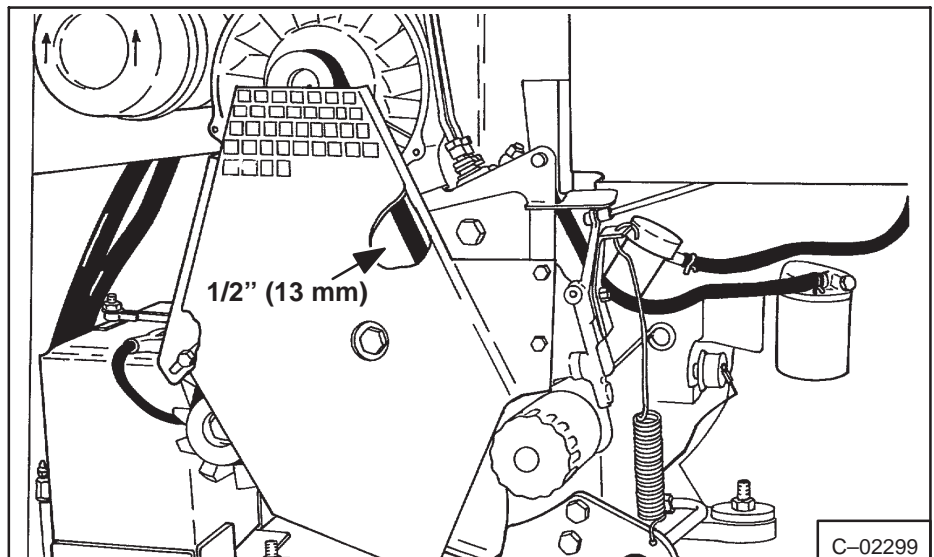
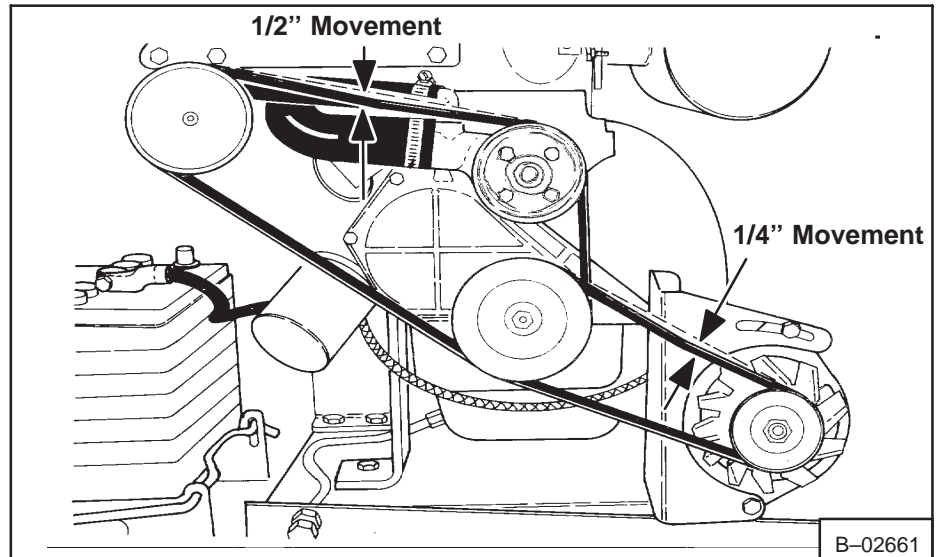

Fig. 1-25 Belt Tension Adjustment (631)
Fig. 1-26 Belt Tension Adjustment (632)
- b. 631,632: Check alternator belt tension. Make adjustment for belt movement with 5 lbs. (2,27 kg) force (Fig. 1-25 & Fig. 1-26) as shown.